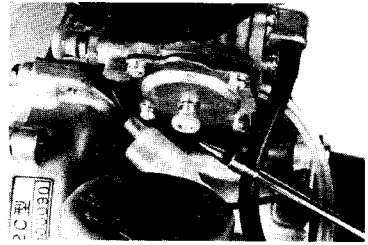

Fig. 7a
- Push in and hold green tickler valve, see figure 7a (**CAUTION: Do Not Pump Tickler**)